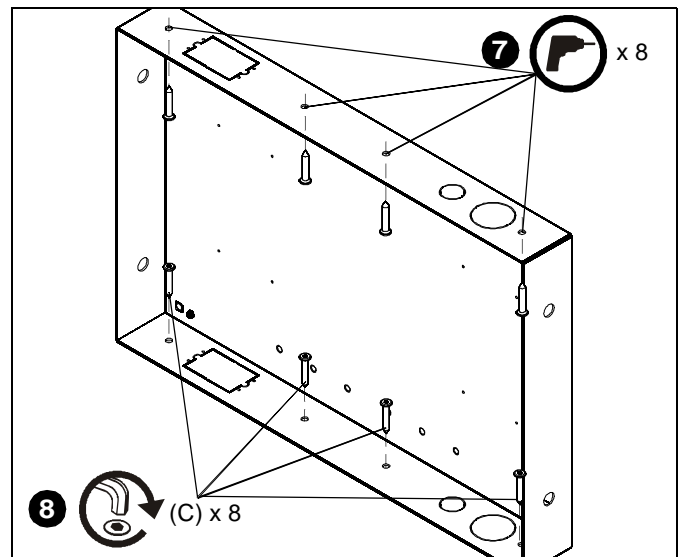

Figure 5
7. Drill eight 3/16" diameter pilot holes in horizontal framing at top and bottom mounting holes. (See Figure 5)
8. Attach the PAC501 (A) to horizontal framing using eight M7 x 40mm Allen head connector screws (C) using an M4 Allen head drill bit (E). (See Figure 5)